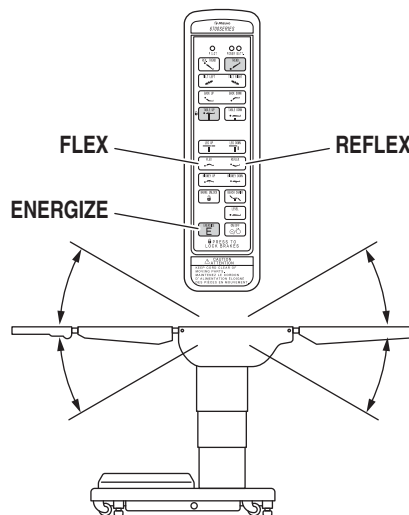

Figure 2-12. Flex/Reflex Positioning
g. Flex Positioning To place the table top in a flex position from horizontal, press the ENERGIZE button and then the FLEX button (figure 2-12). To return the table top to a horizontal position or into a reflex position, press the ENERGIZE button and then the LEVEL or REFLEX button.